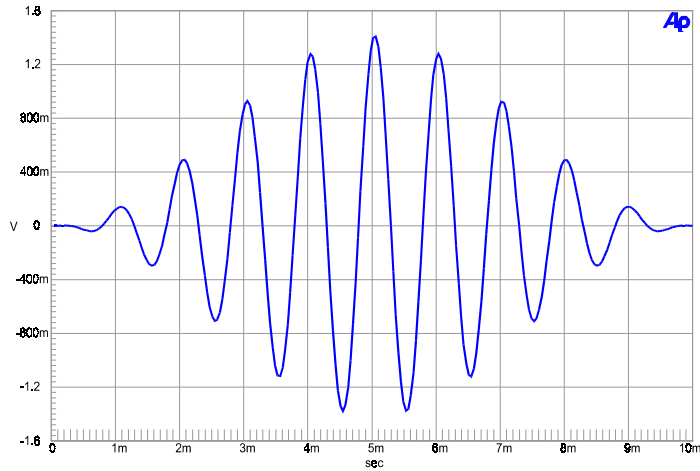

Figure 2-31. Shaped Sine Burst signal. (1 kHz, 10 cycles)
2.6.2.7 Shaped Sine Burst *Sine burst with raised cosine envelope (see Figure 2-31)*